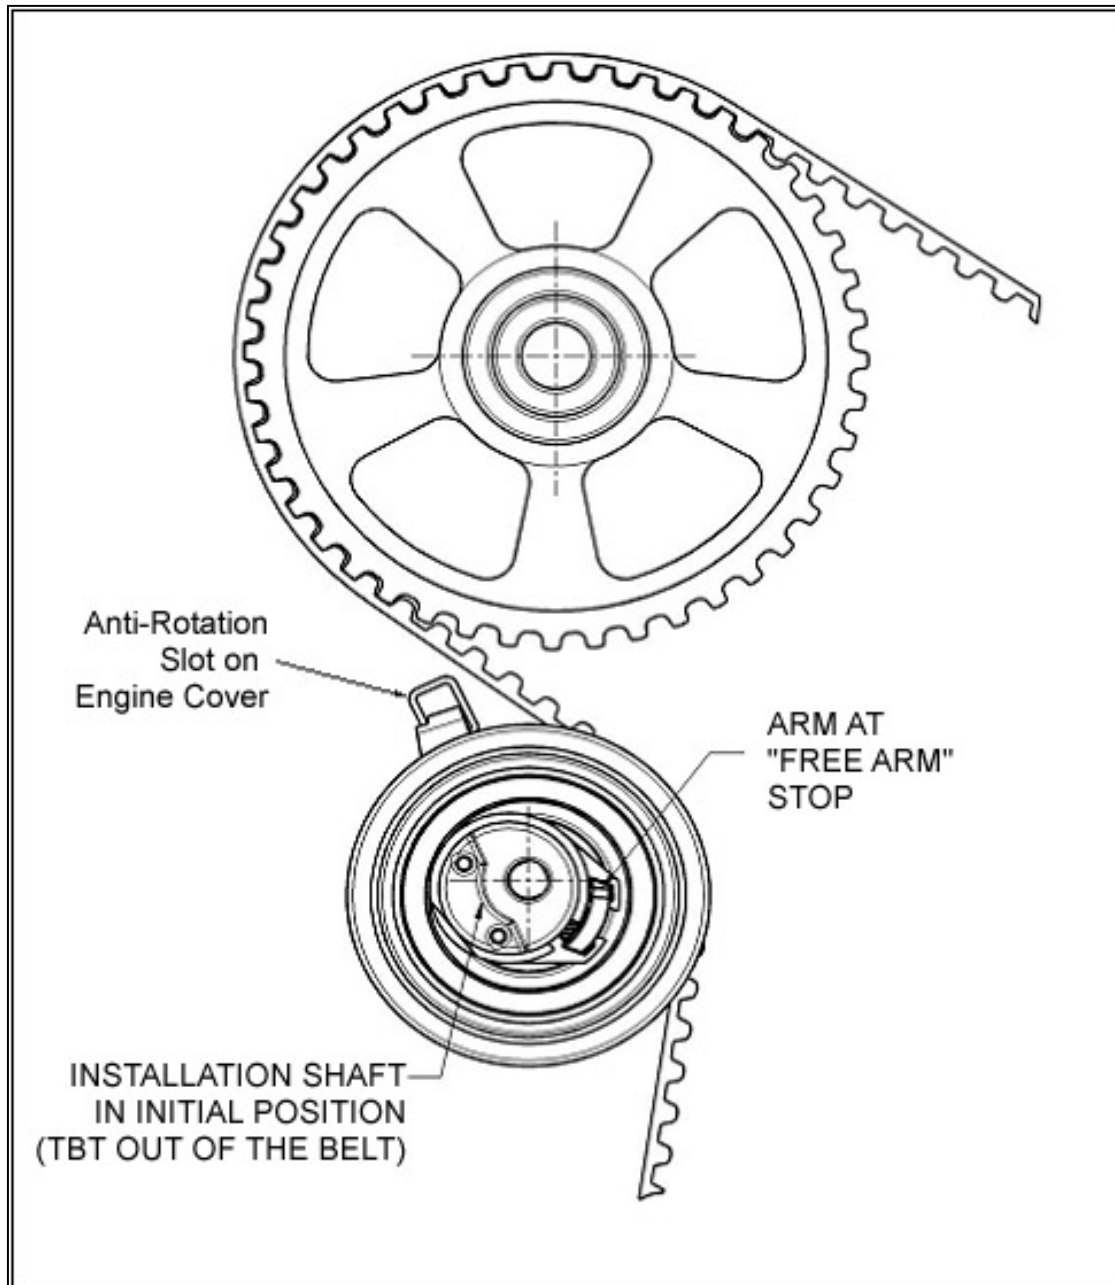

Figure 4: Install the tensioner on the mounting stud and fit the TBT Tab into the slot of the timing cover.
8. Install new TBT on engine ensuring that the TBT's Anti-Rotation Tab is engaged with the Anti-Rotation Slot on the timing drive cover (Figures 4).
9. Rotate the Installation Shaft until its two holes are pointing at the "8 O'clock position" then lightly tighten the M8 Mounting Nut (Figure 4).